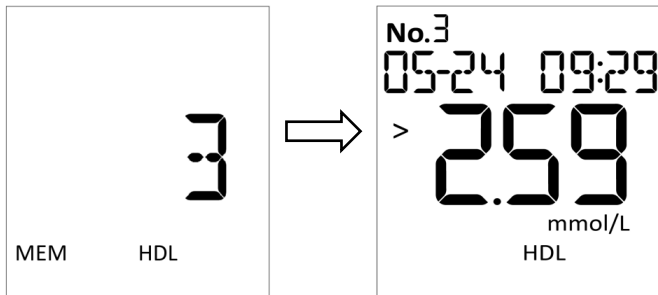

Fig 5.47
- HDL value query interface (Ref Fig 5.47)